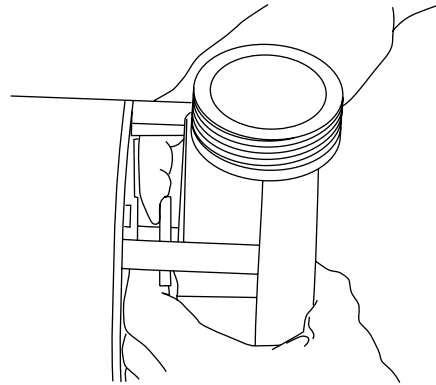

Figure 6
5. Screw impeller onto shaft until it seats against shaft shoulder. Work slinger over end of impeller sleeve so it rides on sleeve (Figure 6).